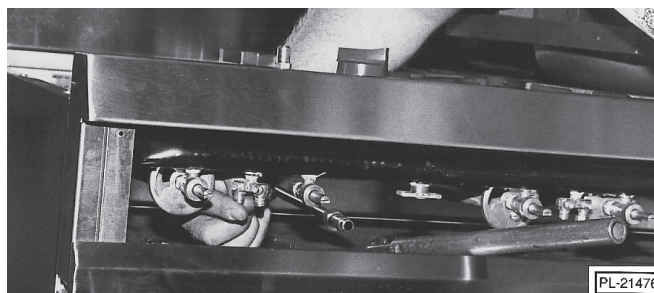

Fig. 21
2. Disconnect pilot tubing (Fig. 21).